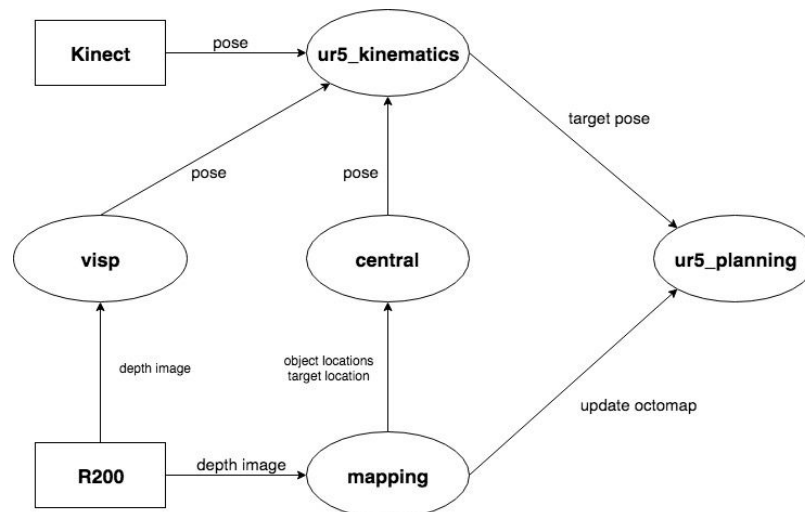

Fig. 3 Preliminary overall design
- We spent some time refining the overall design (Fig. 3).